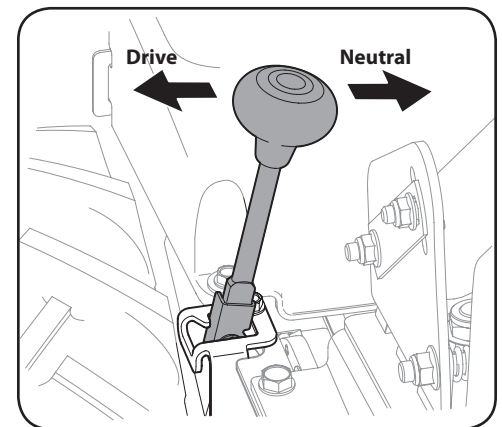

Figure 4-2
1. Place the neutral lever in the NEUTRAL position by pulling back on the neutral lever and moving it to the right. See Figure 4-2.
3. To adjust the side shields, remove the wing nuts. Move the side shield to the desired position and replace the wing nuts. Tighten securely. See Figure 4-2.